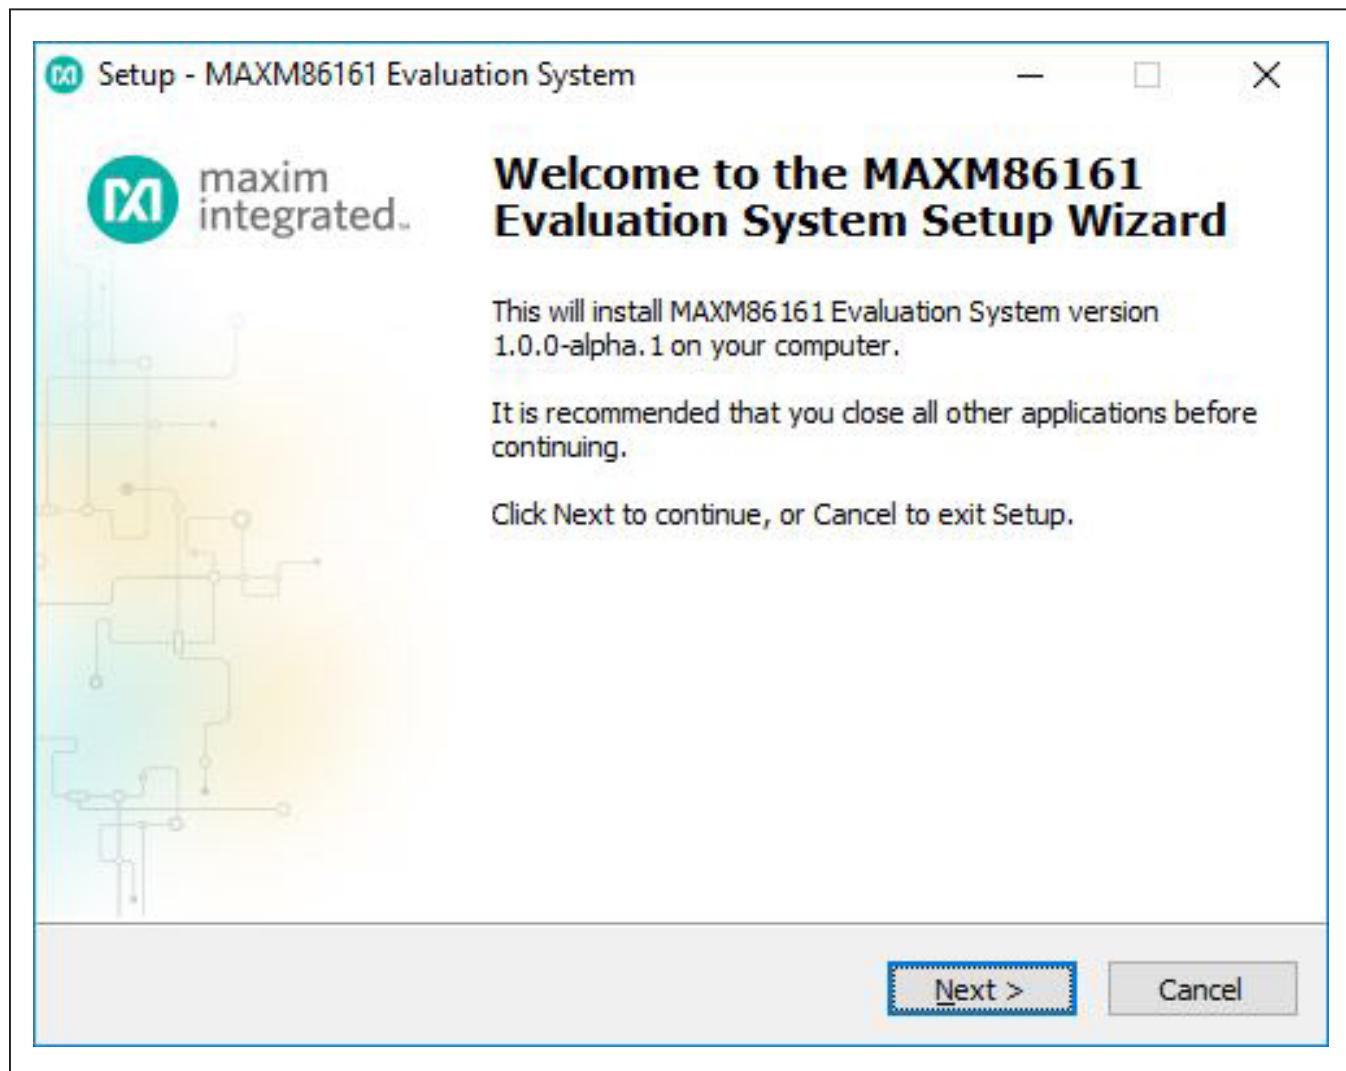
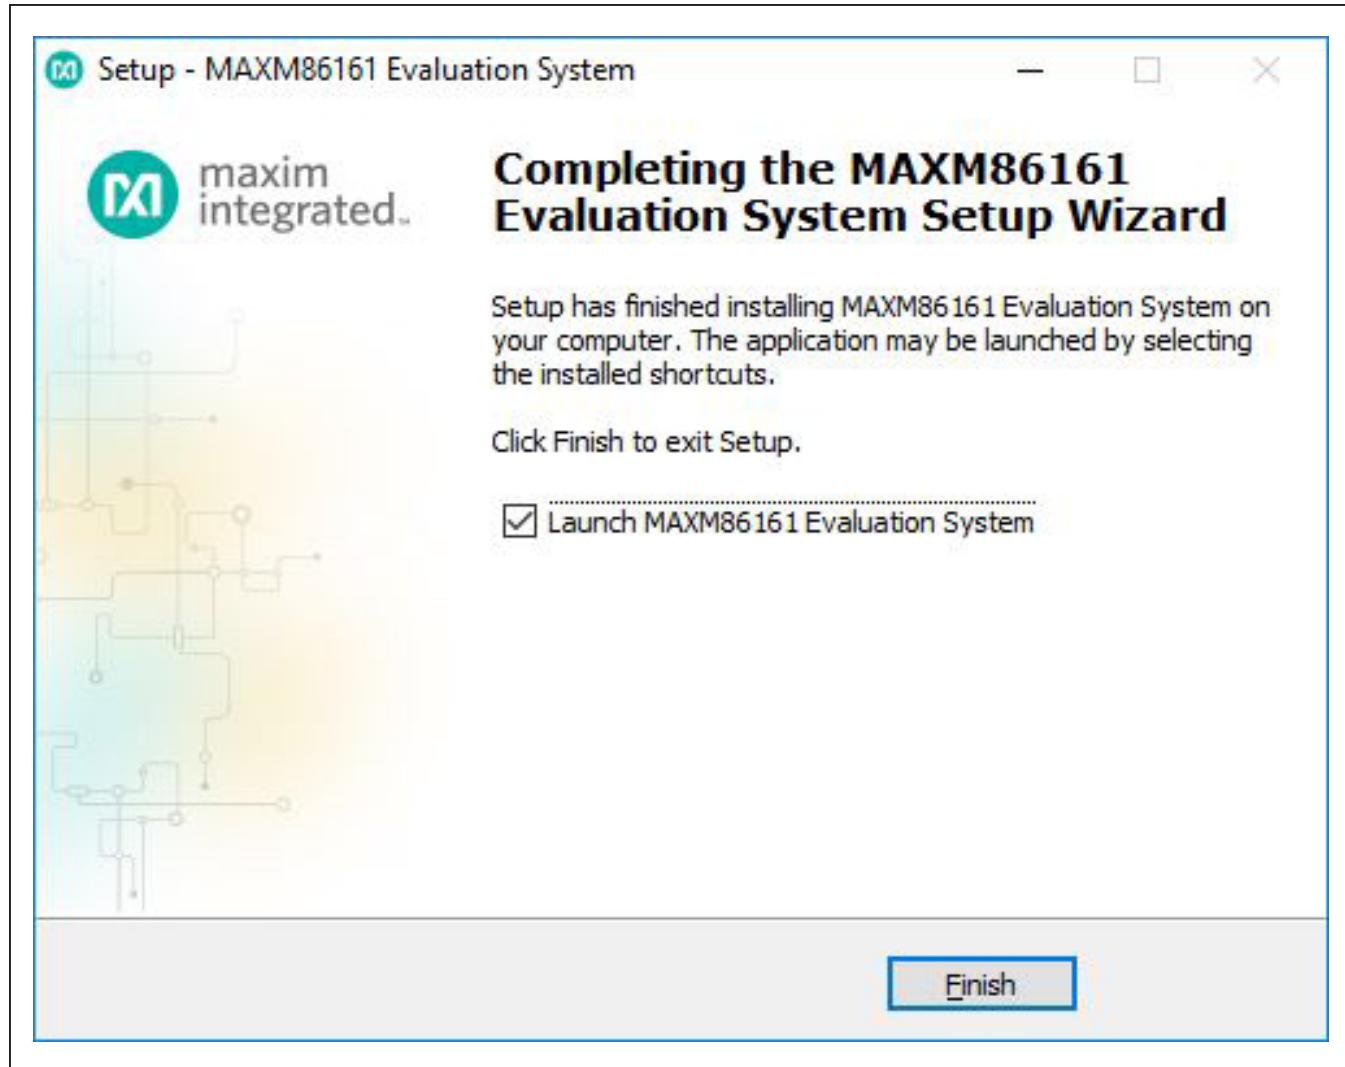

Figure 4. Setup MAXM86161 EV System GUI Software Step 1
Figure 10. Setup MAXM86161 EV System GUI Software Step 7
5) Open up MAXM86161GUISetupVxxx.exe and follow the instructions from the pop-up windows as shown in Figure 4 to Figure 10.